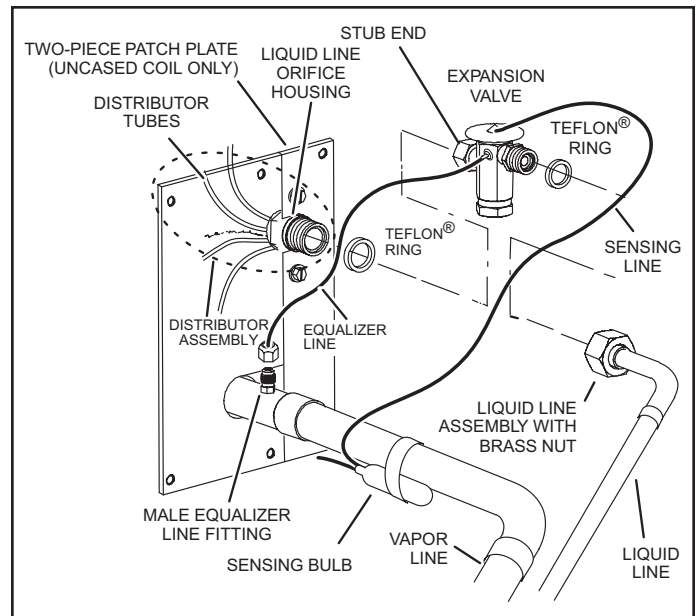

Figure 6. Remove Existing Expansion Valve (uncased coil shown)
7. Remove and discard check expansion valve and the two Teflon® rings (see Figure 6).